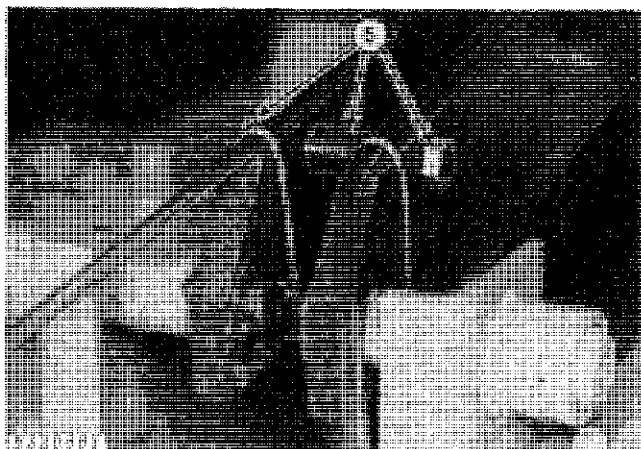

Fig. 20-Installing Spacer
5. Remove tie bolt and spacer (Fig. 20).